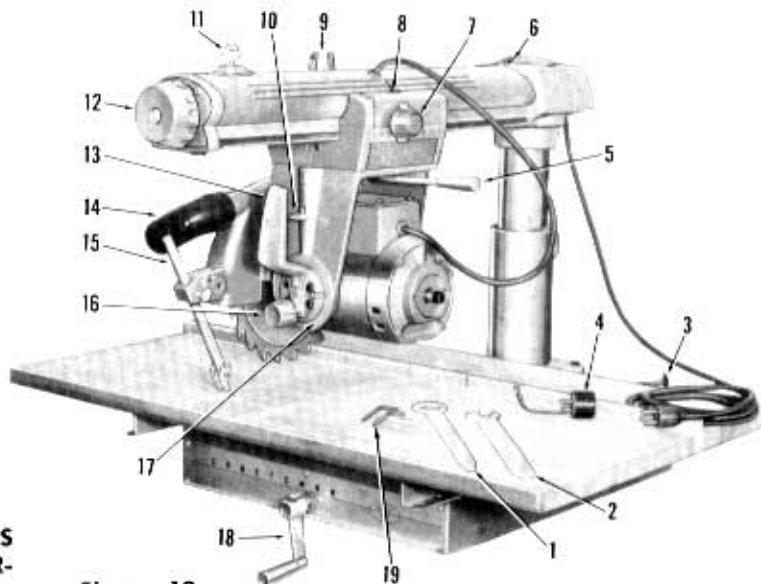
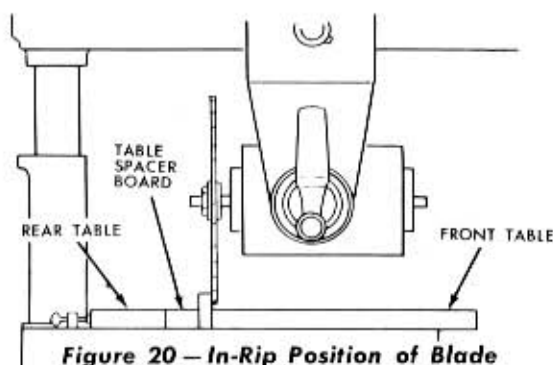

Figure 19
Figure 20 — In-Rip Position of Blade
RAISING AND LOWERING THE RADIAL ARM is accomplished by the elevation crank (Item 18, figure 19). One complete turn of this handle will raise or lower the radial arm $\frac{1}{8}$ ".
LOCKING THE CARRIAGE TO THE RADIAL ARM is accomplished by the carriage lock knob (Item 7, figure 19). Turn the knob clockwise to lock; counterclockwise to unlock.
ANGULAR MOVEMENT AND LOCKING OF THE RADIAL ARM are controlled by the arm latch handle (Item 12, figure 19). The radial arm can be rotated 360° and locked in any position. The arm is unlocked from any position by a slight counterclockwise rotation of the arm latch handle and is locked in any position by rotating the arm latch handle clockwise until tight. The radial arm has positive stops at 0° and 45° left and right, and is released from these index positions by unlocking and pulling out the arm latch handle (Item 12, figure 19). **Due to positive arm locking at the index positions, the arm latch handle may be difficult to pull out. A few turns to the left will release it.**
- Before moving the radial arm to the desired index position, turn the arm latch handle (Item 12, figure 19) just 1/4 turn counterclockwise from the locked position.
MOVEMENT AND POSITION OF THE MOTOR IN THE YOKE are controlled by the latch pin handle (Item 10, figure 19) and bevel lock knob (Item 16, figure 19). The bevel scale indicates the angular position of the motor with respect to the horizontal from 0° to 90° in either vertical position. The latch pin handle automatically indexes the motor at 0°, 45°, and 90° up and down. Lift to release. At any other position the latch pin handle is not engaged. The bevel lock knob locks the motor to the yoke when the motor is in any position. Locking is clockwise; unlocking is counterclockwise.
MOVEMENT AND POSITION OF THE YOKE are controlled by the swivel latch pin knob (Item 9, figure 19) and the yoke clamp handle (Item 5, figure 19). The swivel latch pin automatically indexes the yoke at each 90° position and two 45° positions. Lift to release. The yoke clamp handle locks the yoke to the carriage in any position. Pull to release. Push to tighten. When "In Ripping" it may be desirable to have more free table in front of the saw blade than is obtainable when the radial arm is at the 0° position. With the blade in the normal cross-cut position index the radial arm to 45° left and lock it. Then loosen the yoke clamp handle and index the yoke 45° clockwise. Reclamp the yoke clamp handle. The added free table space is now to the right of the blade and ripping should be done from the right side of the table. The reverse is also true for "Out Ripping" by indexing the radial arm 45° right and indexing the yoke 45° counterclockwise. The added table space is now to the left of the blade and ripping should be done from the left side of the table.
Move the motor along the radial arm until the blade, when spun by hand, just touches the front face of the fence (See Figure 20). The indicator (Item 8, figure 19) on the "In-Rip" scale should now read 0. If not, shift the position of the indicator to read 0.